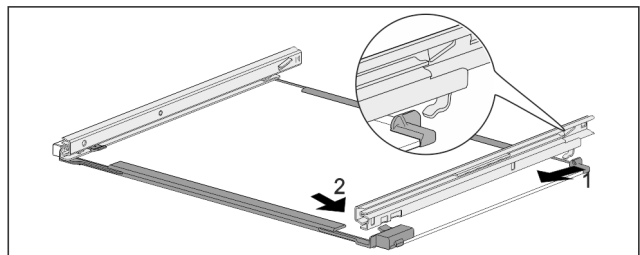

Fig. 206 Glass shelf with rails
- ▶ Hook in rail at the back. Fig. 206 (1)
- ▶ Hook in rail at the front. Fig. 206 (2)